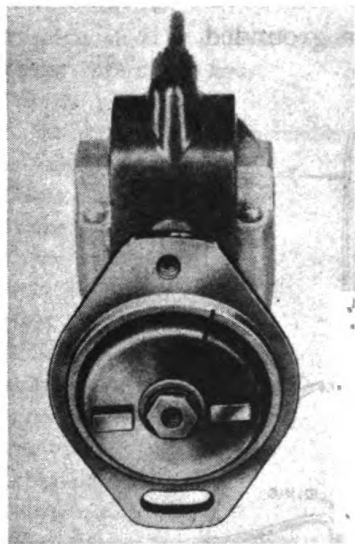

Figure 21. Impulse coupling timing marks.
g. With the blower wheel housing and gear cover removed, position the magneto through the opening in the gear case cover plate, and align the timing marks on the magneto gear with the marks on the camshaft gear. (See fig. 21.) Time the magneto as outlined in paragraph 52. Install the gear cover, the blower wheel, and blower wheel housing. (See pars. 47g and 41h.)
a. **TIMING MAGNETO** (fig. 21). Rotate the impulse coupling in reverse direction of magneto rotation until the mark on the impulse coupling lines up with the mark on the magneto flange. Remove the spark plug and turn the flywheel over till the piston is at the upper dead center on the firing stroke. Turn the flywheel again until the starting crank pin in the front end of the crankshaft is in a vertical position. With the magneto in the above position, mesh the magneto pinion with the cam gear and bolt into place. Should spark occur before the piston reaches the upper dead center position, remove the magneto and turn gear back one tooth. If spark occurs late, set gear ahead one tooth, or the required amount to make the spark occur when the piston is at upper dead center.